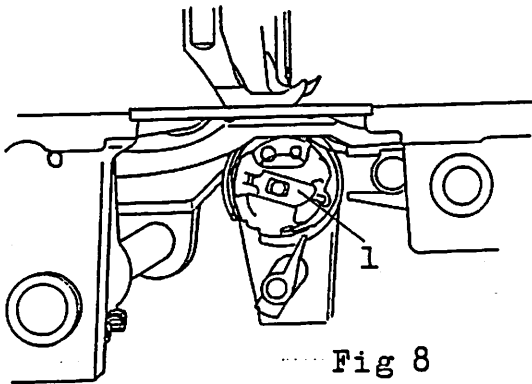

Fig 8
2. Pull up the latch(1, Fig.8) of the bobbin case and remove the bobbin case.